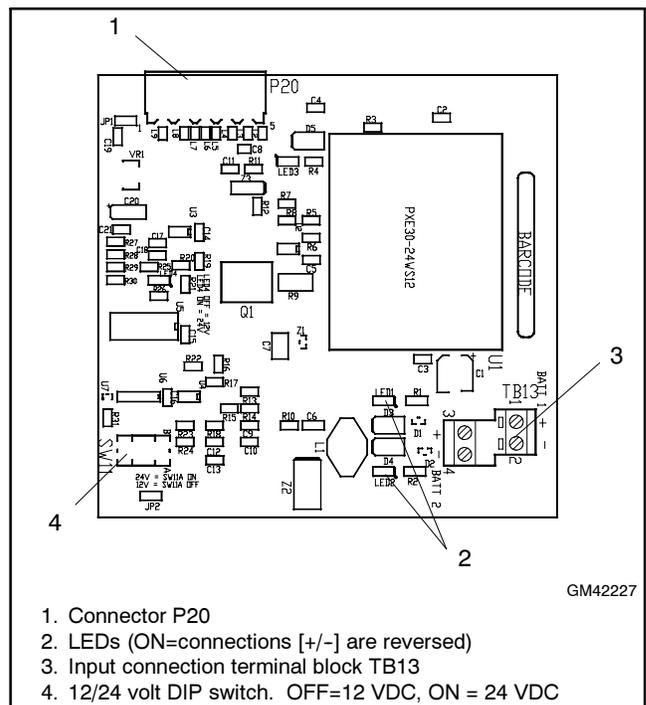

Figure 22 External Battery Supply Module
- Use #14-28 AWG wire to connect one or two batteries to terminal block TB13. (A second battery can be connected but is not required.) Follow the marking on the board for the positive (+) and negative (-) connections. See Figure 22 and Figure 23.
Note: If the battery connections are reversed, red LED1 or LED2 will light. See Figure 22.
- Set voltage selector switch SW11A to 12 or 24VDC. See Figure 22 and Figure 24. Switch SW11B is not used.